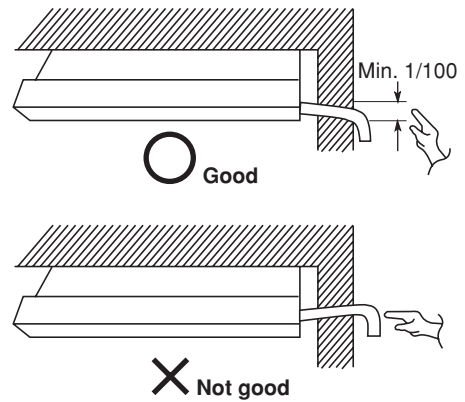

Fig. 3-79
- Connect the drain piping so that it slopes downward from the unit to the outside. (Fig. 3-79)